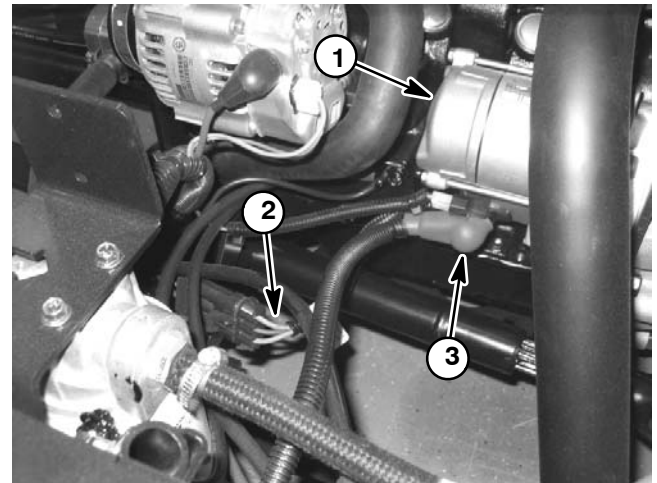

Figure 23
A Workman HD series vehicle uses three (3) fusible links for circuit protection. These fusible links are located in a harness that connects the starter B+ terminal to the vehicle wire harness (Fig. 23). If any of these links should fail, current to the protected circuit will cease. Refer to electrical schematics and wire harness drawings in Chapter 11 – Electrical Drawings for additional fusible link information.